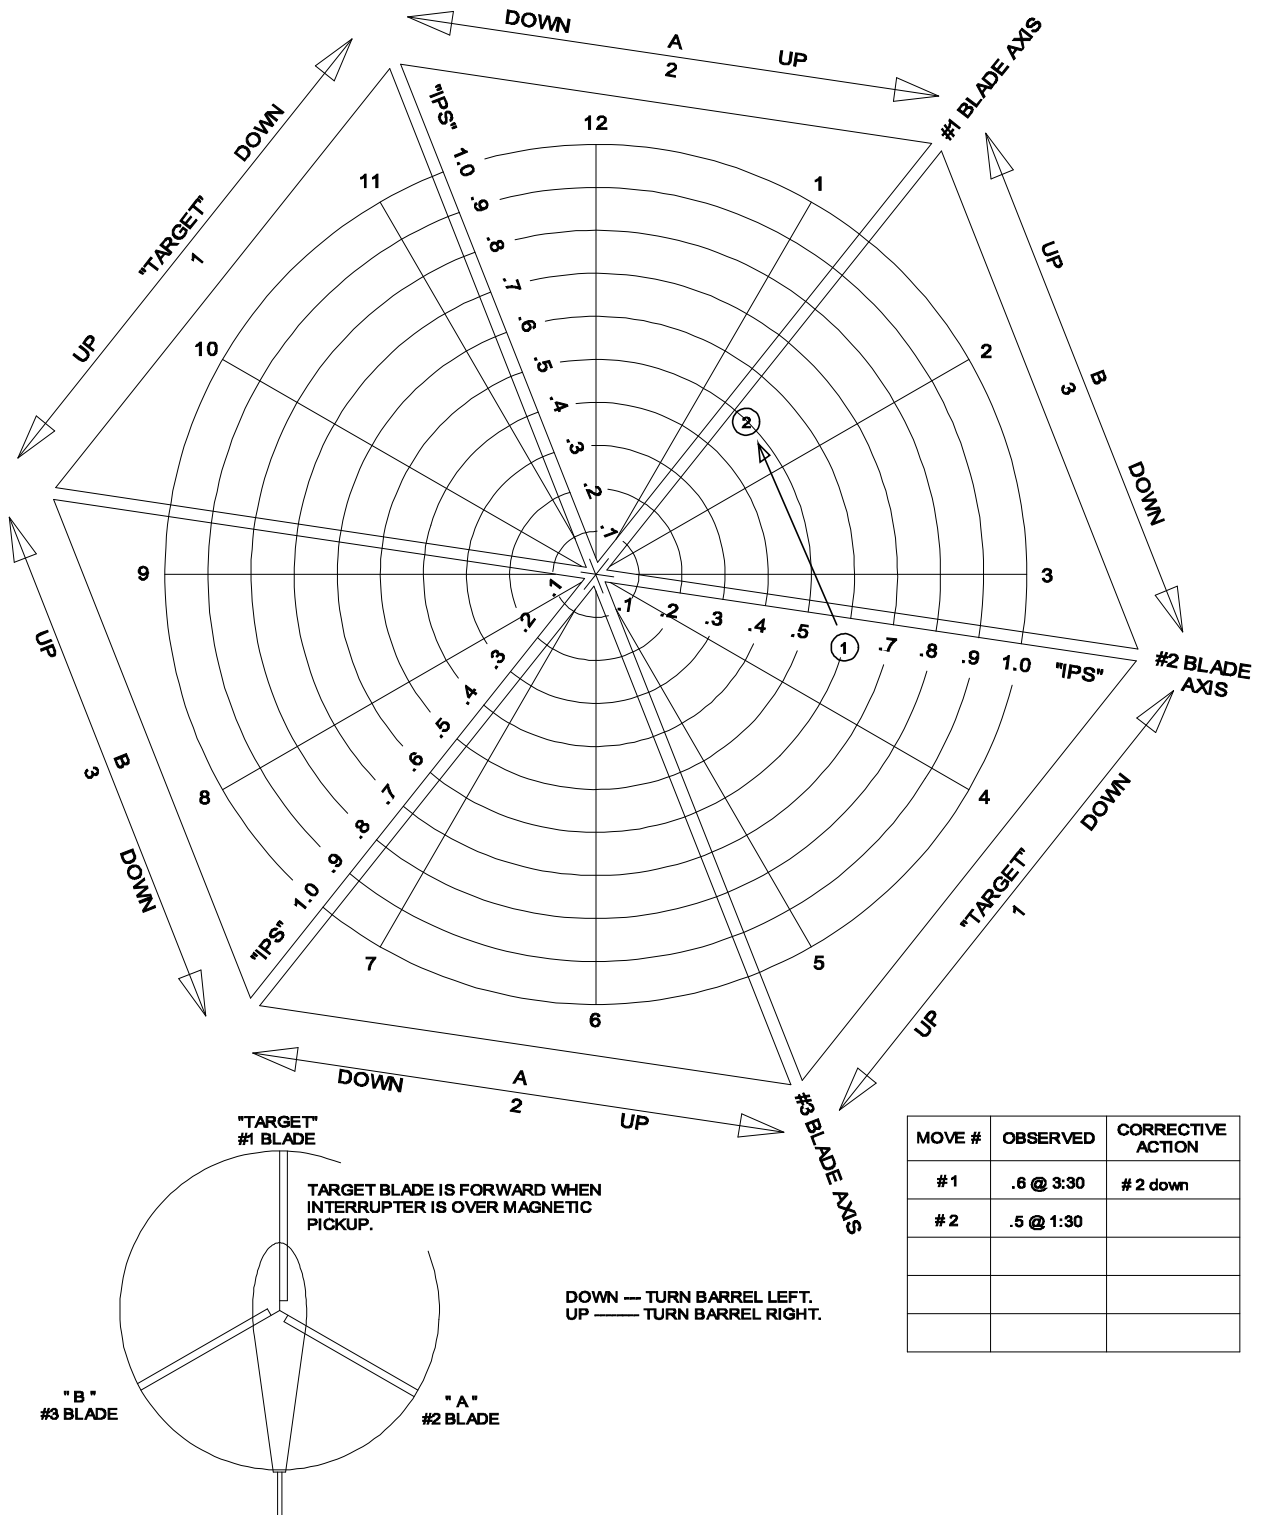

Figure 12-6.1. Main Rotor Clock Angle Correction Example
2. #2 blade is adjusted approximately 1/3 flat down. A reading of .5 ips at a clock angle of 1:30 for the second hover run is plotted (Figure 12-6.1). Clearly, the adjustment did not produce the expected move on the polar chart. This indicates that the polar chart is not correctly aligned to the helicopter.